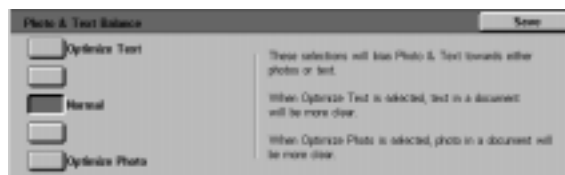

Figure 50: Text & Photo settings
- Touch the box that indicates the appropriate image quality level setting for Text & Photo Balance, as illustrated in Figure 50.